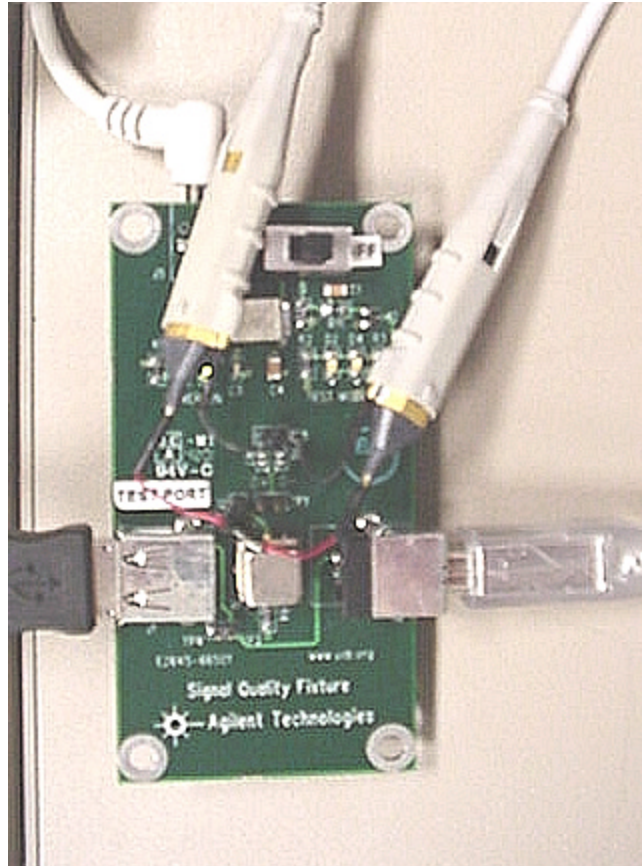

Figure 15. Probe Connection for CHIRP Testing
2. Connect the scope probes to the fixture, as shown in Figure 15 ...
3. Connect the scope probes, as shown in Figure 15